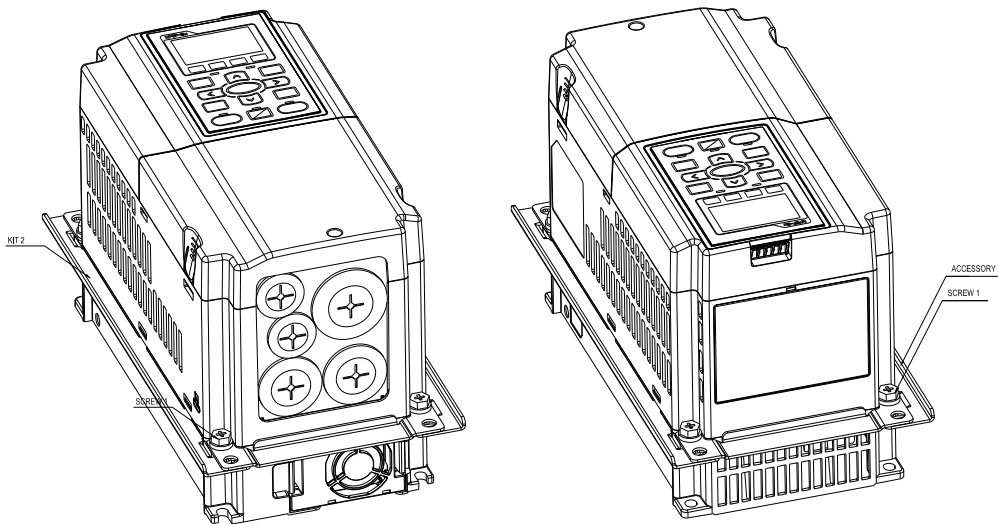

Figure 2
2. Fasten screw*2 (M6) and accessory 2 & 3. Screw torque: 25~30 kg-cm / [21.7~26 lb-in.] / [2.5~2.9 Nm] (figure 2)